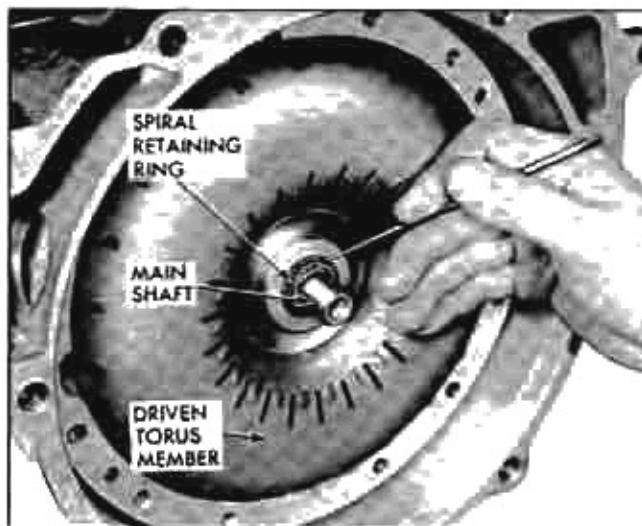

Fig. 121 Installing Spiral Retaining Ring on Main Shaft
10. While moving main shaft forward (with small tool inserted in hole of main shaft if necessary), install driven torus to main shaft spiral retaining ring (Fig. 121).